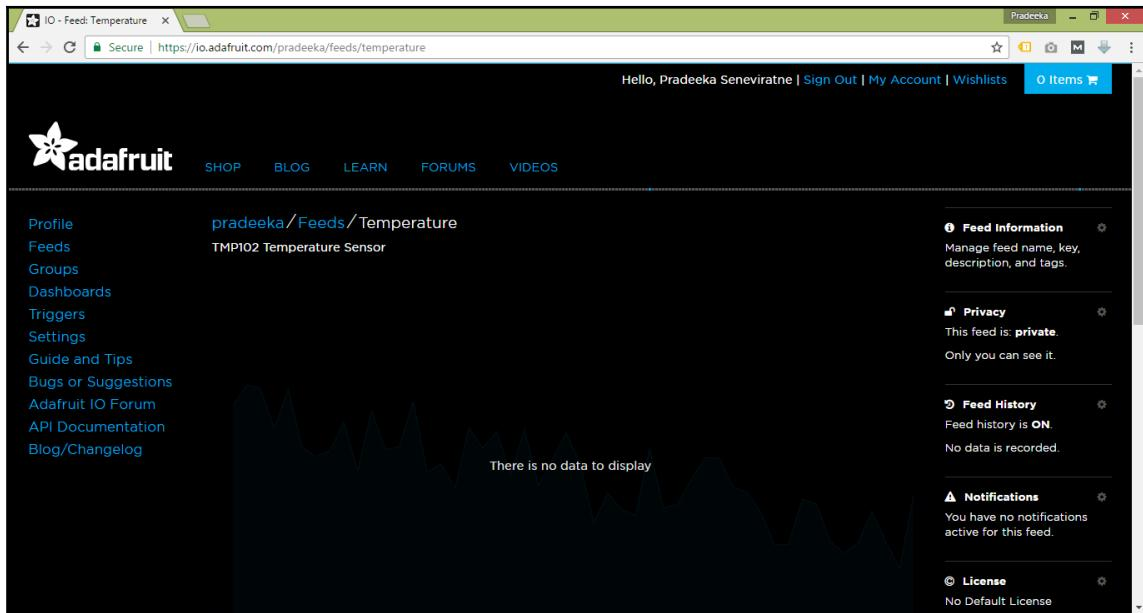

Figure 4-8: Display page for feed data
5. In the list, click on the **Temperature** feed (feed **Name**) to view the feed data. Currently, you will get a blank graph with the message There is no data to display because you haven't published data to the feed yet (Figure 4-8):